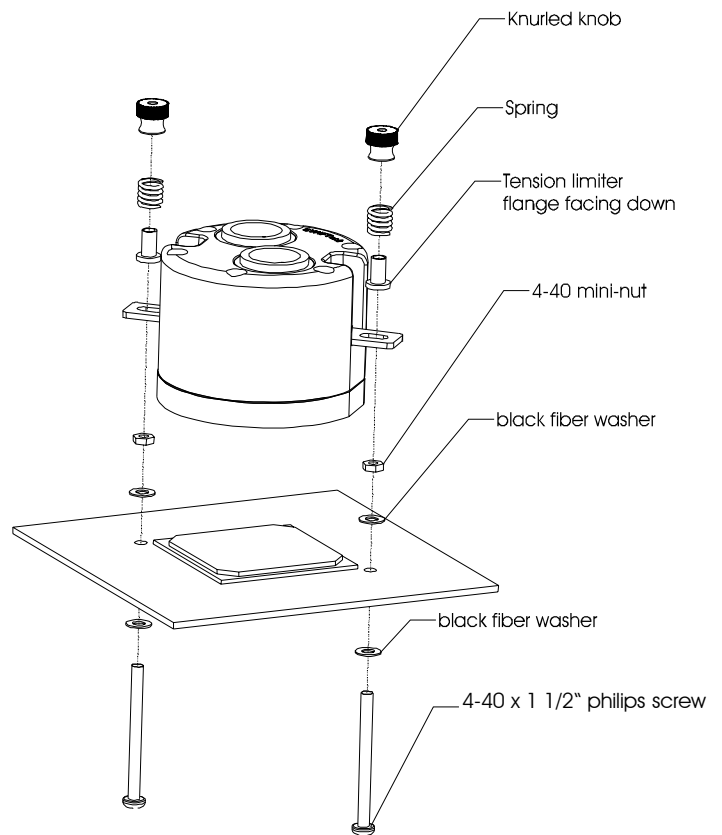

Figure 10
- Slide down the MCW20-A over the retention screws, as shown figure 10, then install the nylon tension limiters (flange facing down), the springs, and tighten the assembly with the knurled knobs. Over tightening of the assembly is prevented by the tension limiter. Users should be cautious nonetheless, as nylon can be easily crushed.